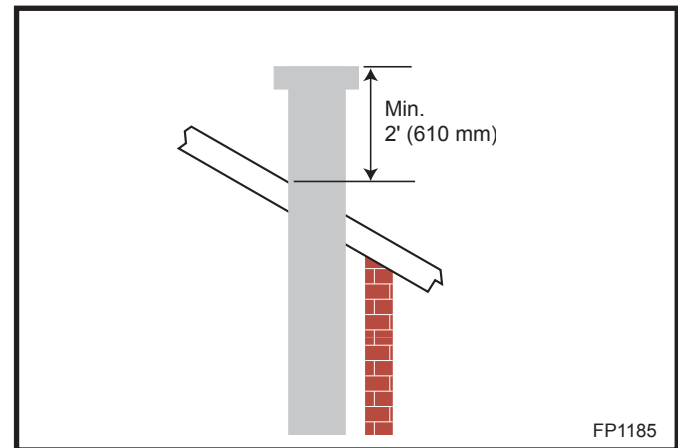

Fig. 27 Minimum termination to roof clearance.
- The minimum height of the vent above the highest point of penetration through the roof is 2' (610 mm). (Fig. 27)